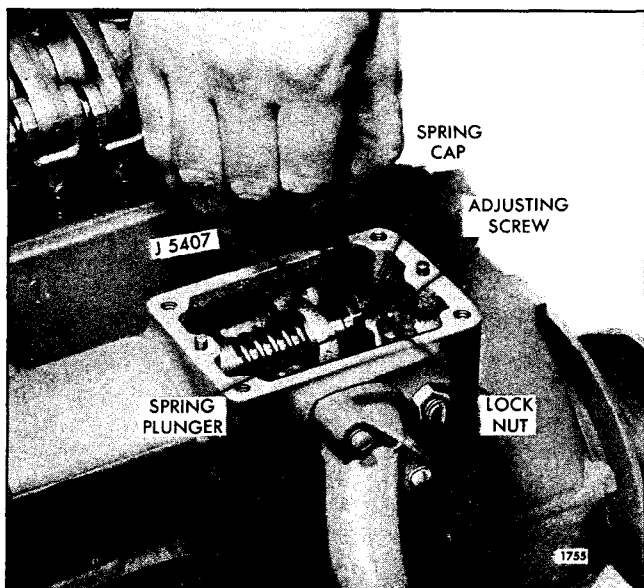

Fig. 1 - Adjusting Gap (Single Weight Governor)
6. Check the gap between the low-speed spring cap and the high-speed spring plunger with .170" gage J 5407 (Fig. 1).